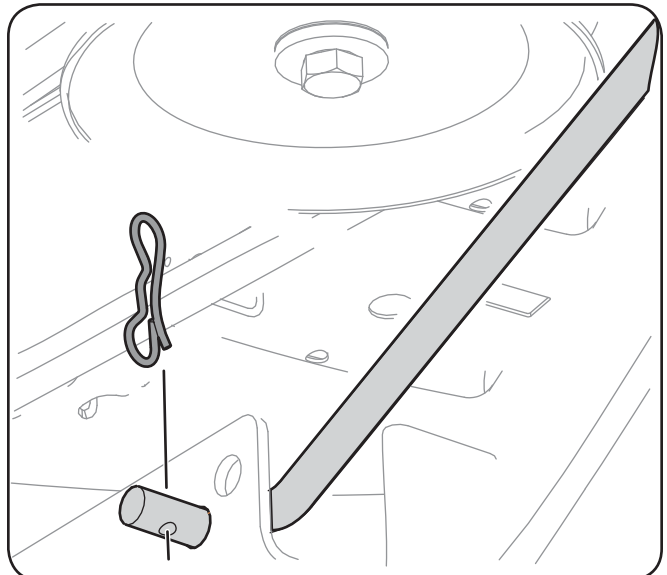

Figure 7-5
14. Pull the bow-tie pin out of the front deck lift rod securing it to the deck. See Figure 7-5. Slide the deck lift rod out of the front hanger bracket.